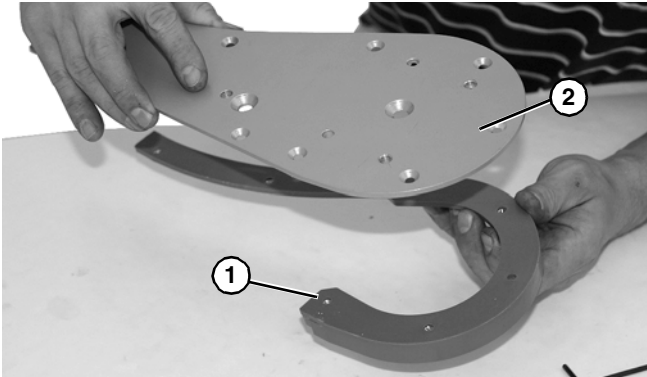

Figure 76
3. Remove retaining guide (Figure 76, item 1) from idler head plate assembly (Figure 76, item 2). Replace components, as needed.